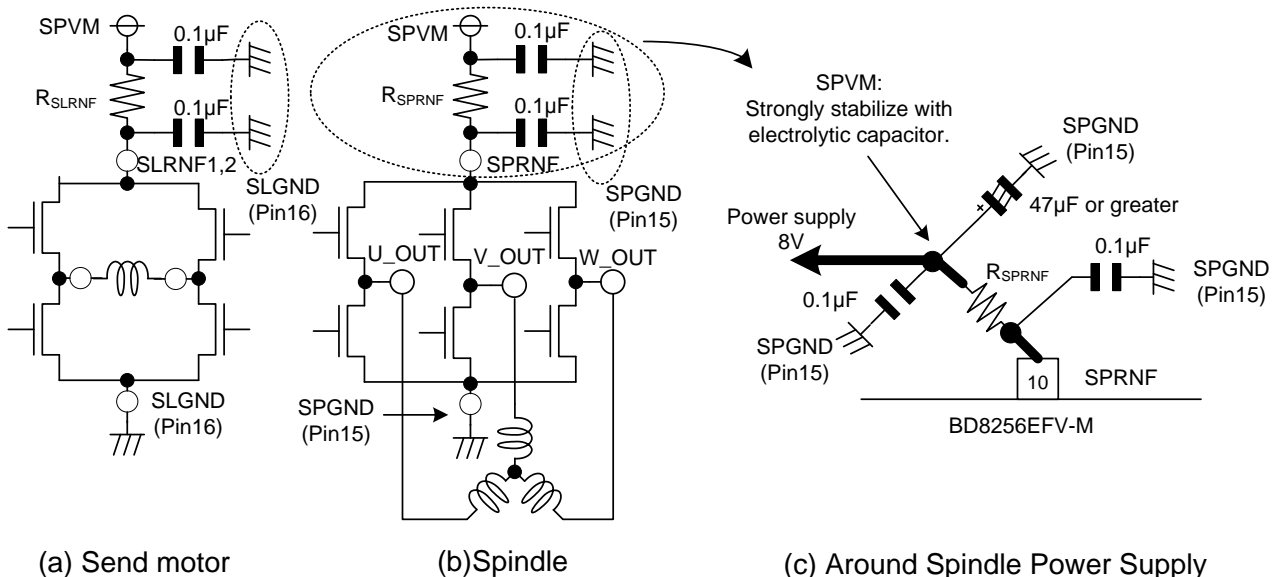

Figure 29. Position of Ceramic Capacitors
- (2) Provide a low ESR electrolytic capacitor between the power terminal and the ground terminal of the driver to achieve strong stabilization. Provide a ceramic capacitor with good high frequency property next to the IC. Also provide a ceramic capacitor with good high frequency property between RNF and GND. (Figure 29)